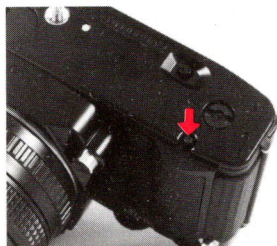

Fig. 71
1. Push the hand grip release button on the bottom of your camera to remove the standard grip. (Fig. 71)